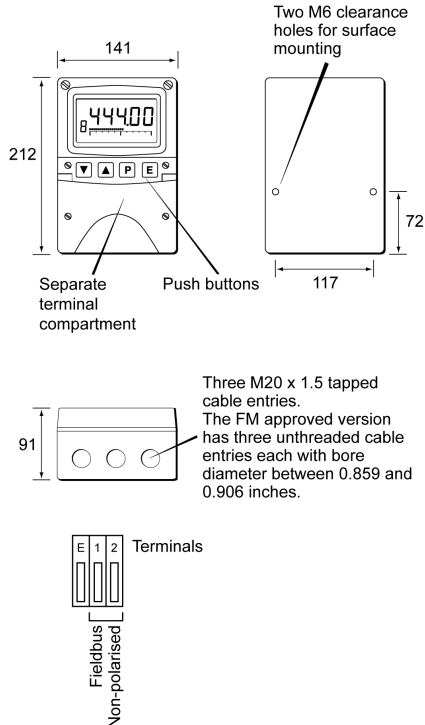

Fig 3 Dimensions and terminal connections
- Connect the field wiring to the terminals as shown in Fig 3.
When used as a fieldbus listener the BA444DF-P is not visible to the fieldbus host and can only be configured using the front panel push buttons shown in Fig 3.